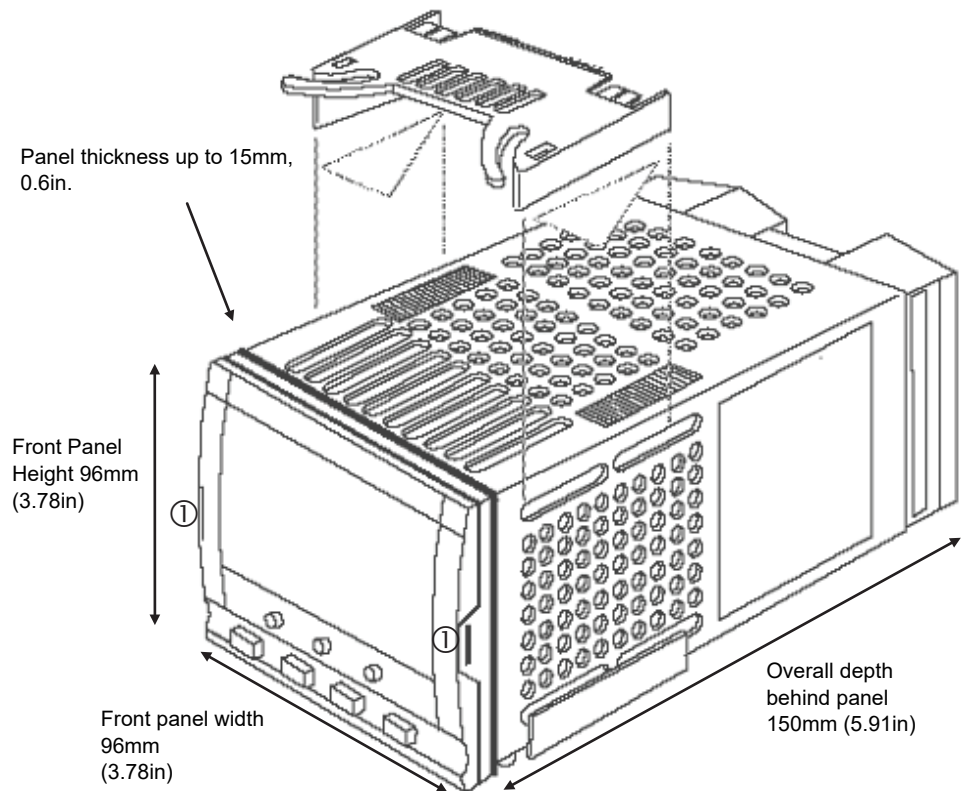

Figure 3 Outline Dimensions
Remove the controller from its sleeve by pushing both latching ears ① (Figure 3) outwards, then ease the controller forwards from its sleeve. It should not be necessary to use any tools for this.